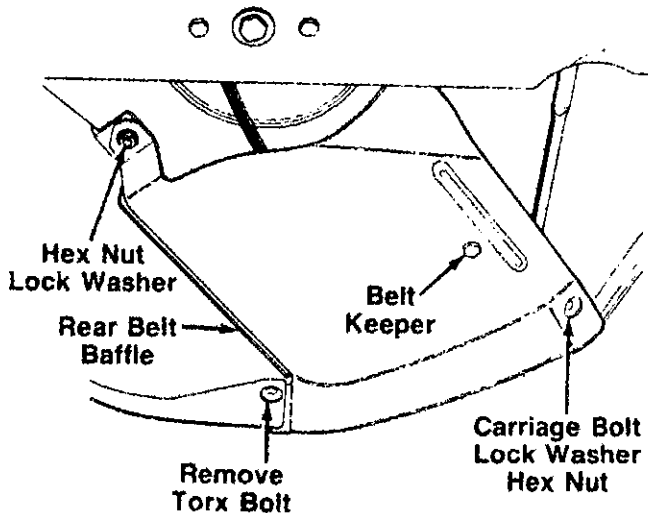

FIGURE 22.
4. Remove the rear belt baffle by removing the lock washer and hex nut shown in figure 22. Then remove one Torx bolt, using a #27 Torx driver. A 9/64" Allen wrench may also be used. Then remove one carriage bolt, lock washer and nut as shown.
**NOTE:** When reassembling the rear belt baffle, make certain the belt keeper is outside of the belt, and the edge of the rear belt baffle is between the rear chute baffle and the rear panel as shown in figure 22. Make certain to tighten all nuts and bolts securely. If plastic was placed under the gas cap, be certain to remove it.